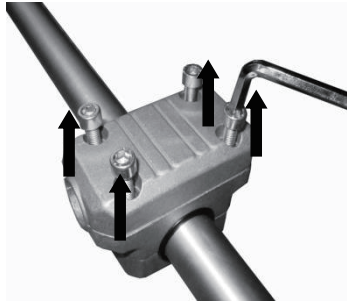

Fig.1-1
Assembly of the handle (Fig.1-1,1-2,1-3)
- 1) Remove the screws infixing device and remove the upper cover. (fig.1-1)